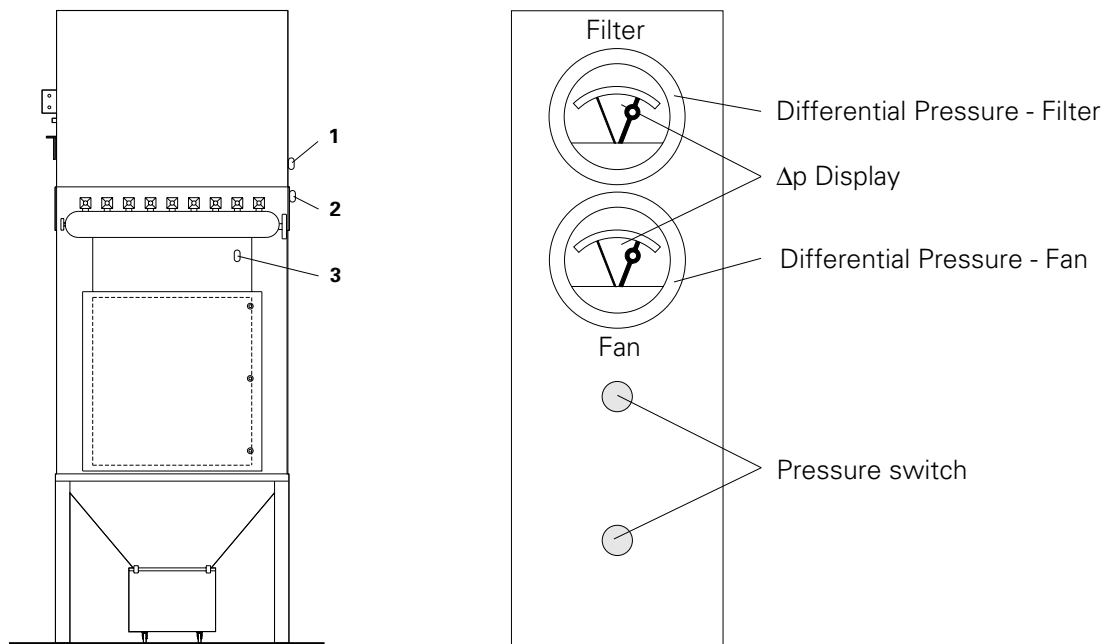

Fig. 6
- Clean air side: "1" (Fig. 6)
- To the Fan: "2" (Fig. 6)
- Clean air side "3" (Fig. 6)
- "Pressure monitoring on the Fan" - is optically displayed and the Alarm is released through two pressure switches, visually, and acoustically (See Fig. 6).